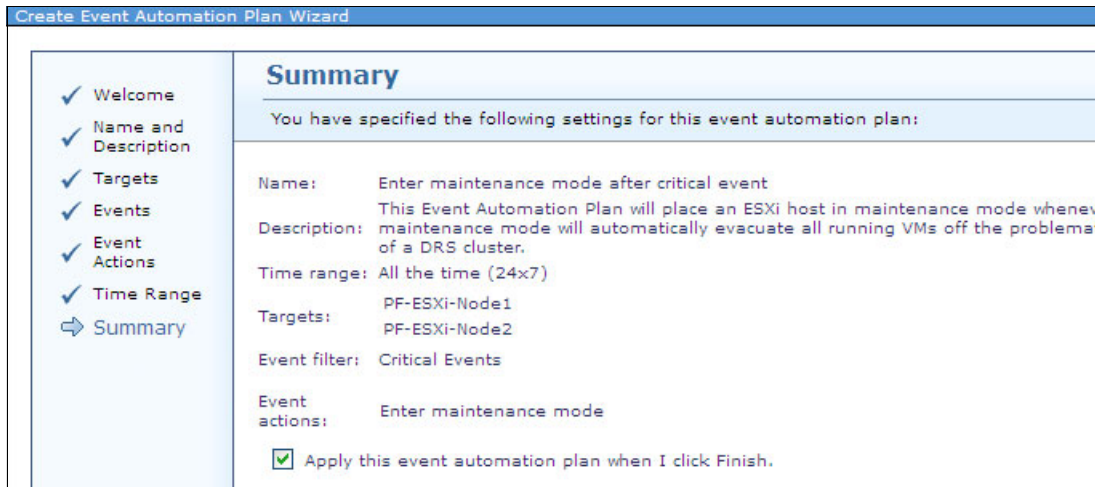

Figure 11-76 Create Event Automation Plan Wizard Summary window
11. Review the Summary window and click **Finish** to create and apply the event automation plan, as shown in Figure 11-76.